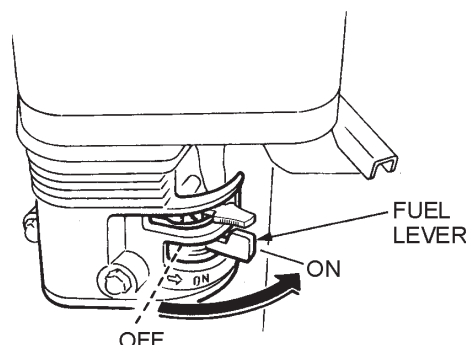

Figure 24. Engine Fuel Valve Lever
1. Place the **fuel valve lever** (Figure 24) to the "ON" position.